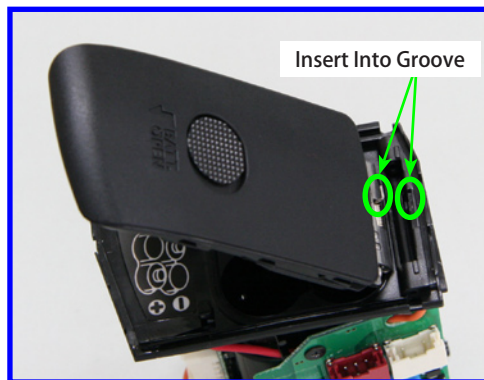

Fig. 042 Battery Cover Ass'y Spring
- Take note of the Battery Cover Ass'y spring position. (Fig. 042)